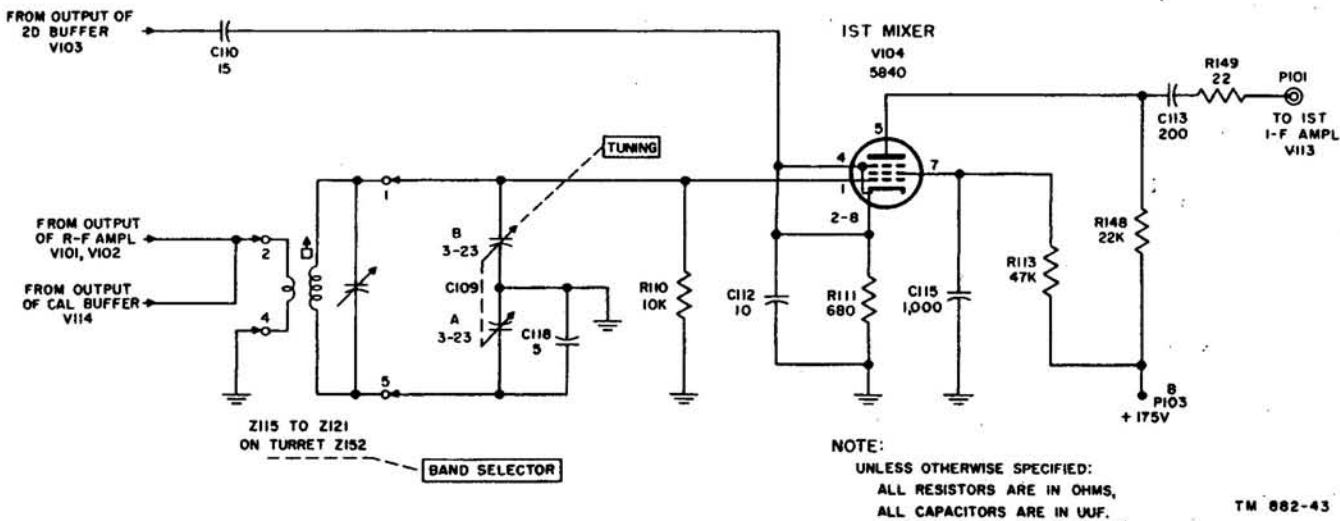

Figure 28. First mixer.
*d. Circuit Description* (fig. 28). The signal originating in the first hf oscillator after being multiplied and amplified, is injected into the cathode from the second buffer. Capacitor C110 with C112 forms a voltage divider. In units with serial numbers 93 and higher, C273 is placed in parallel with C112 on bands 1 and 2 to increase the injection voltage applied to the first mixer. The signal is mixed either with the received signal from the rf amplifier (for signal reception), or with the signal from the calibrator buffer (for